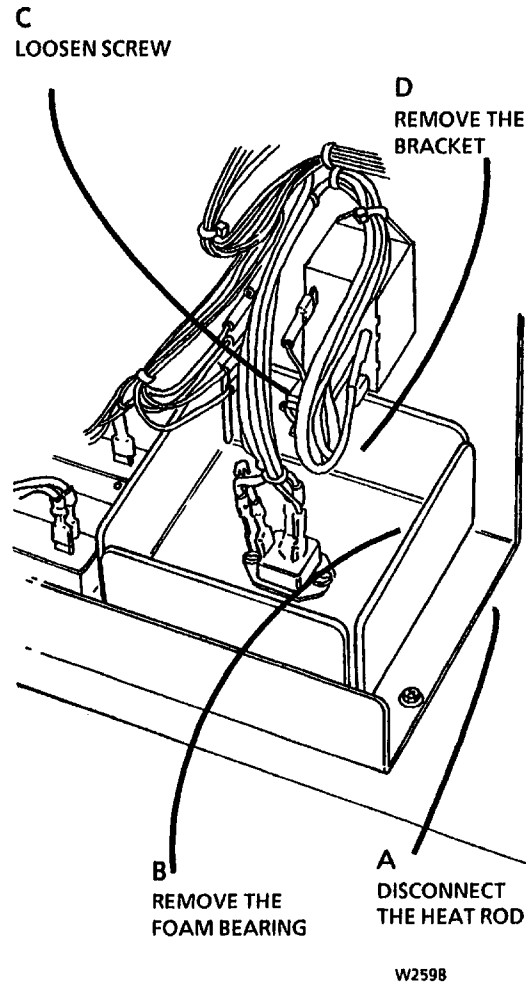

Figure 1. Remove the Bracket
2. (Figure 1): Remove the Lamp Bracket.